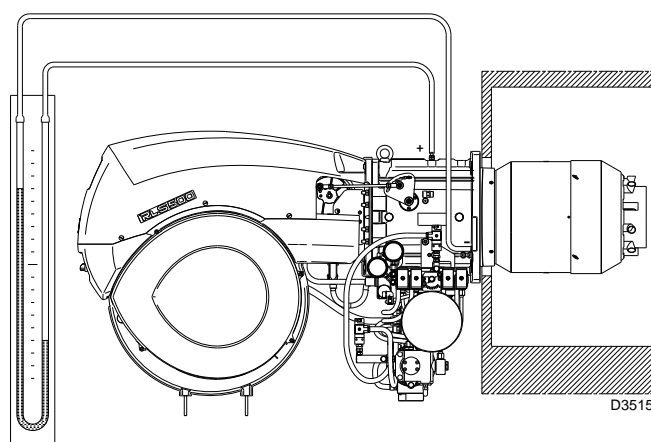

Fig. 33
- Fit a U-type manometer or a differential pressure gauge (Fig. 33), with the (+) fitting on the header gas pressure tap and (-) fitting in the combustion chamber. The manometer readings are used to calculate MAX. burner power using the table on pag. 27.
The arrival of gas at the sleeve is indicated by the U-type manometer (Fig. 33).